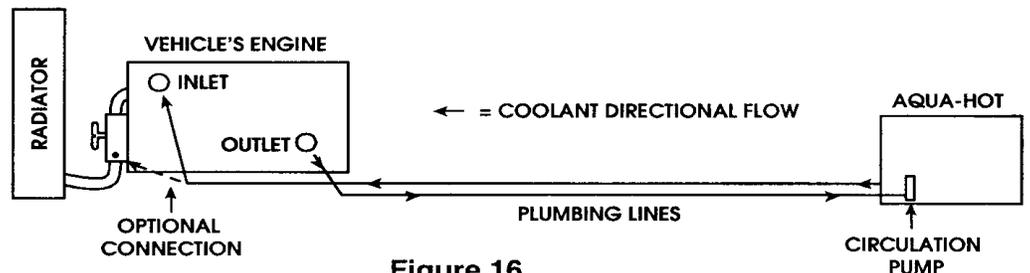

Figure 16
- A. The inlet and outlet ports on the engine, that will supply and return engine coolant to the Aqua-Hot, should be kept as far apart as possible. This will assure the entire engine is preheated, see Figure 16. Should you need assistance in determining the best inlet and outlet ports for your specific engine, contact VSI at (303) 857-2901.